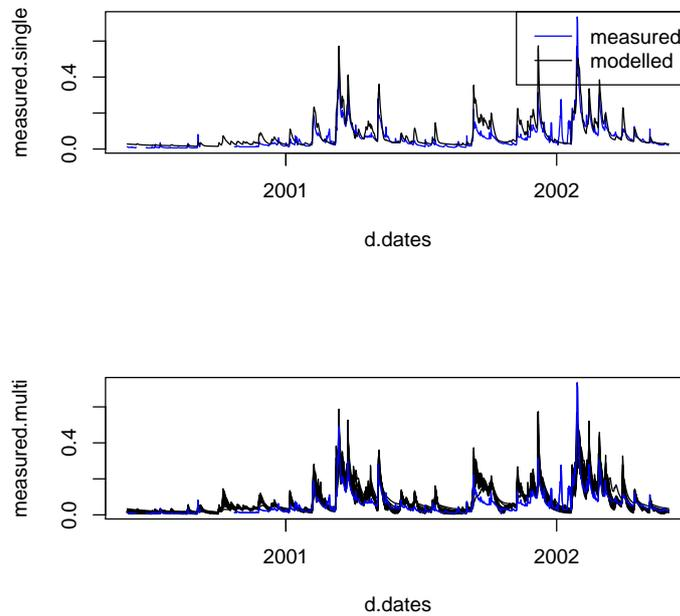

Figure 1: Measured and modelled river discharge.
In this example, we are looking at the difference between an observed river discharge time series and the model output from a hydrological model, simulating the river discharge from meteorological input data. The data is provided in the package and is shown in figure 1 in two ways, once as a single best simulation run and once as a number (25) of simulation runs with varying model parameters representing the uncertainty in the estimation of those parameters.